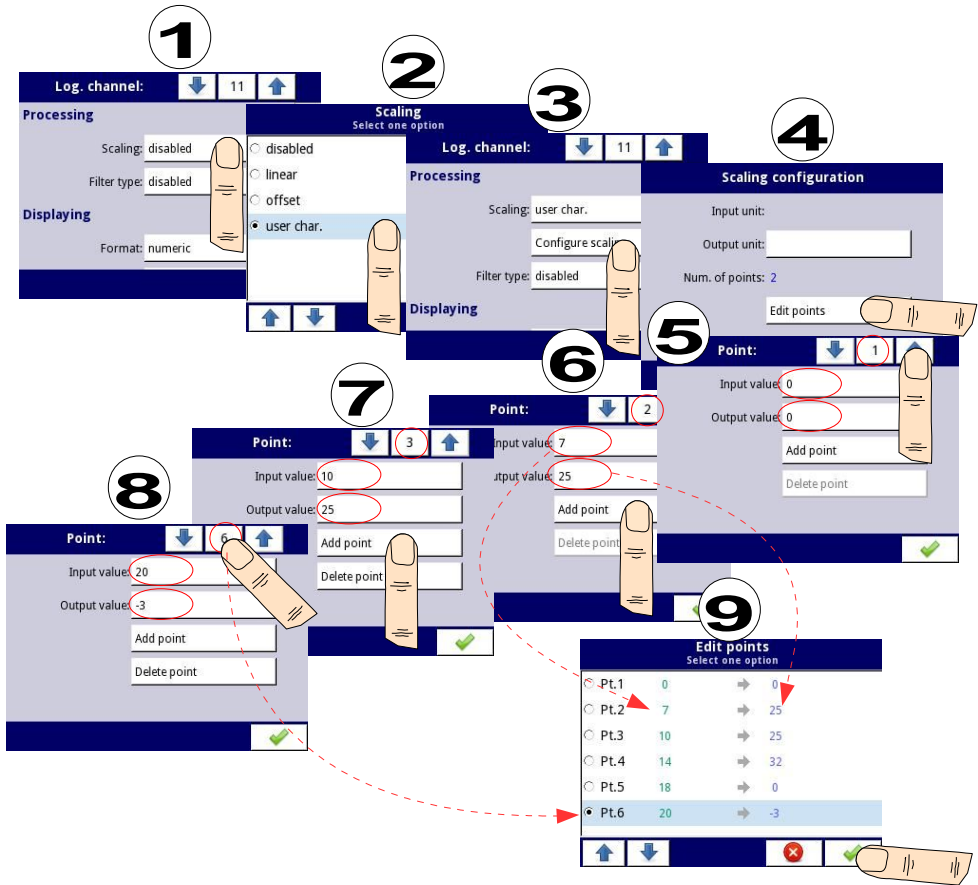

Fig. 7.40. Configuring the user characteristic
1. Press the button next to the **Scaling** label and select the **user characteristic** option (point (1) and (2) in Fig. 7.40).
2. Press the **Configure scaling** button and enter the **Scaling configuration** menu (point (3) in Fig. 7.40).
4. Press the **Edit points** button (point (4) in Fig. 7.40) and go to the **Edit points** menu.
For **Point 1** set input and output value (point (5) in Fig. 7.40).
5. Switch to **Point 2** by using the arrow keys and also set the value of input and output there (point (6) in Fig. 7.40).
8. At the end we check all the points defined by clicking the middle button between the arrows in the upper right corner of the screen (point (8) and (9) in Fig. 7.40).